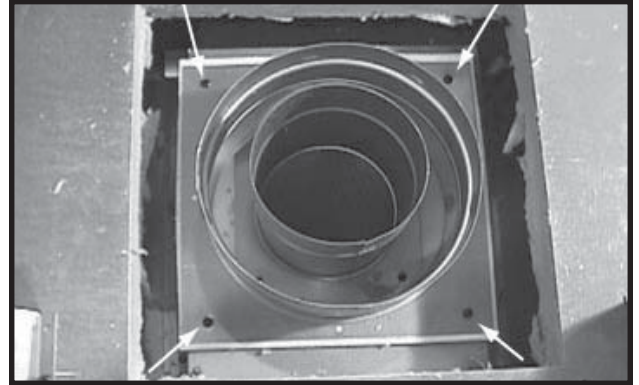

Figure 8 - Remove Four Screws from Outer Collar
- d. Remove the four screws holding the outer collar to the appliance top. See Figure 8. Remove the outer collar.